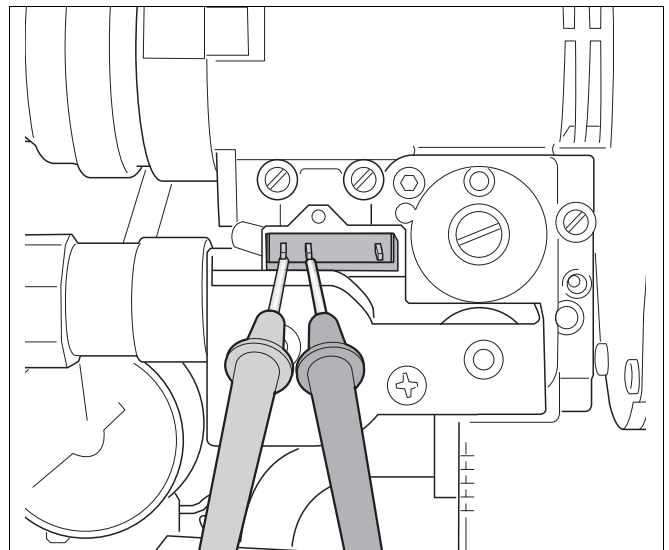
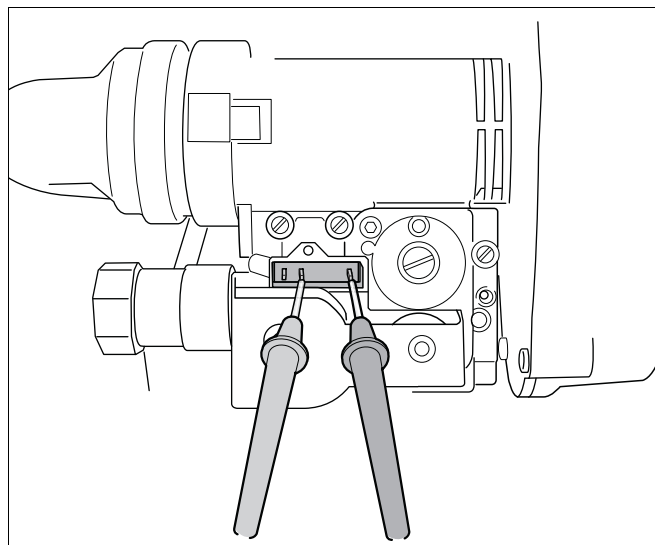

fig. 39 Testing the resistance on the gas burner ass'y (1)
fig. 40 Testing the resistance on the gas burner ass'y (2)
- Test the resistance of both coils of the gas control valve using the volt-ohm-multimeter. The resistance measured between the left and central contacts (see fig. 39) must be approx. 75 Ω and between the right and central contacts (see fig. 40) this must be approx. 185 Ω (+/- 10 Ω). If this is not the case, the gas control valve will probably be defective. It must then be replaced.